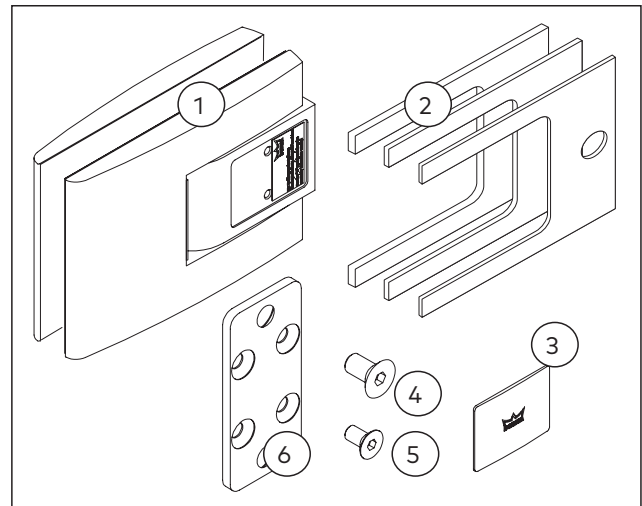

Fig. 9 Scope of delivery for the frame with embedded mounting plate
- ▶ 2 x double-action hinge (Fig. 9/ 1)
- ▶ Gaskets 4 x each with 3 different thicknesses: 1 mm, 2 mm, 3 mm (Fig. 9/ 2)
- ▶ 12 x cover cap in 3 different colors (Fig. 9/ 3)
- ▶ 4 x countersunk screw M8 x 16 (Fig. 9/ 4)
- ▶ 8 x countersunk screw M6 x 12 (Fig. 9/ 5)
- ▶ 2 x mounting plate (Fig. 9/ 6)